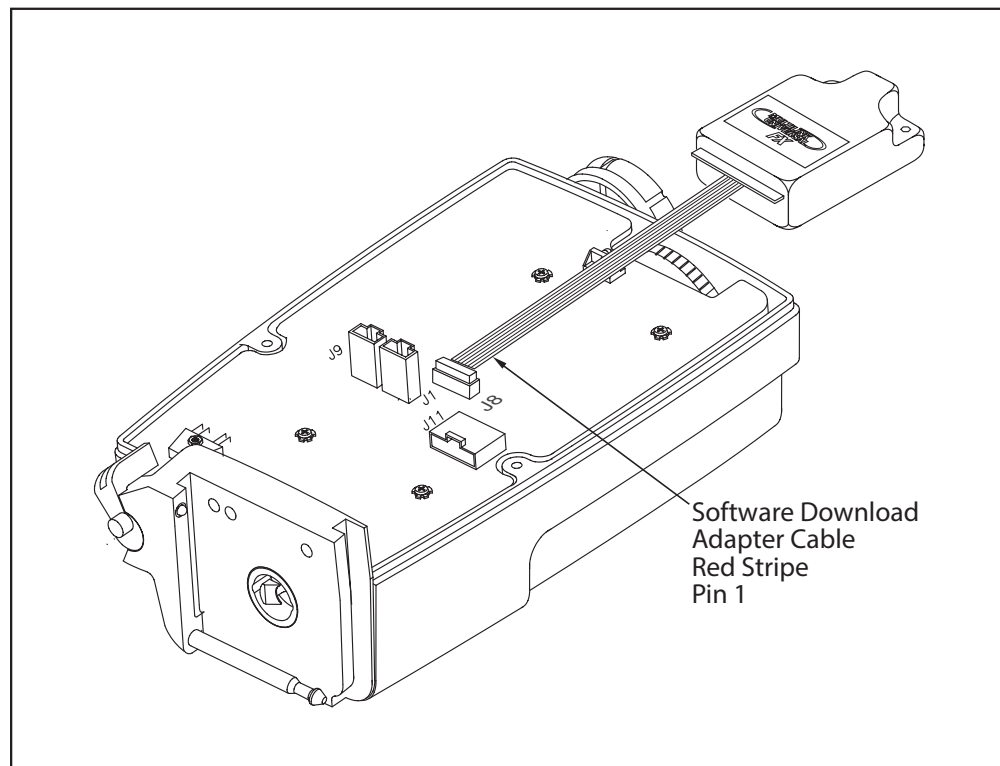

Figure 7-2-2 Powerhead Download Adapter Cable orientation
4. Connect the software download adapter cable to the powerhead's Main Control board as shown in Figure 7-2-2.